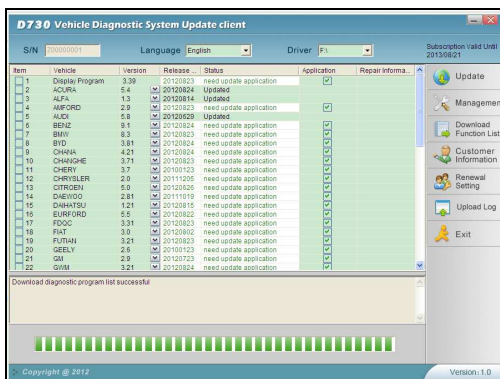

Fig.2-7 Download screen
- (1) Choose the language version on the top and tick the small box before the relevant program as Fig. 2-7;
- (2) Click **[Download]** in right column to enter download status.